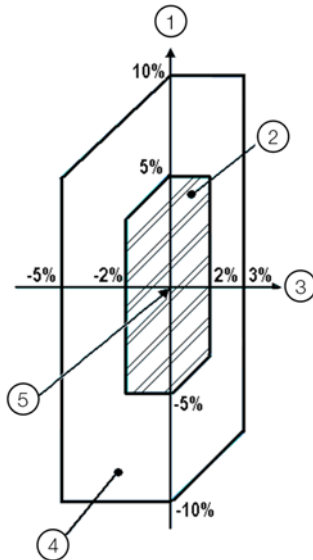

Figure 2.1: Voltage and frequency variation limits
Ex "e" motors are designed to allow maximum variations of the rated voltage of 5% and of the frequency of  $\pm 2\%$  (Zone "A"), according to Figure 2.1.
**Figure 2.1 legend:**
The motor must be able to perform its main function continuously in Zone A, but it may not fully meet its performance characteristics at rated voltage and frequency (refer to the point with rated characteristics in Figure 2.1), when it may present some deviations. The temperature rises may be above those at rated voltage and frequency.